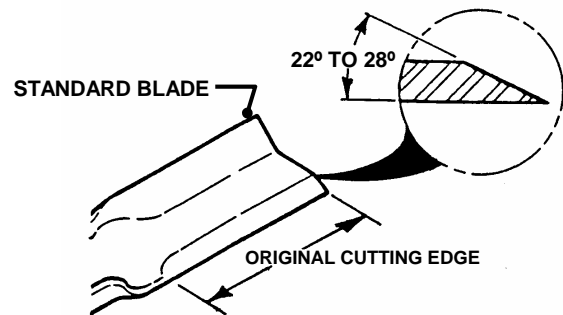

FIGURE 4.14
5. If a blade is in good condition, sharpen cutting edge at an angle of 22 to 28 degrees. DO NOT sharpen beyond existing cutting edge. Replace blades not in good condition. See Figure 4.14.